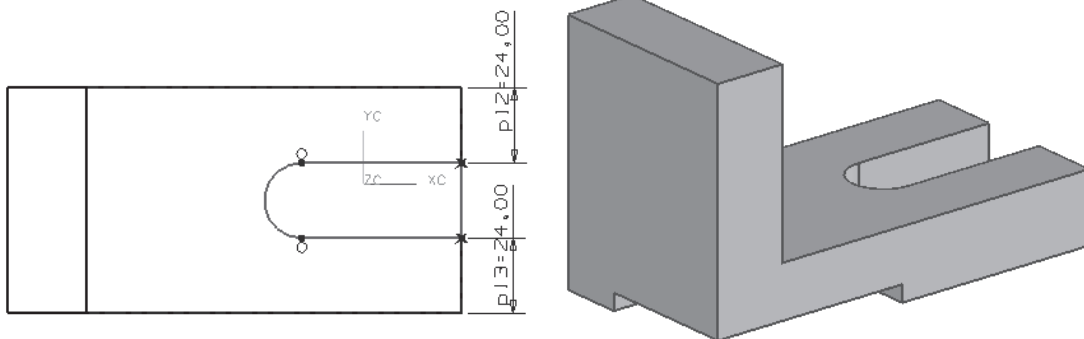

Figure 4-72 Sketch for the third feature
- Create the third feature with the **Subtract** operation using the sketch drawn on the upper horizontal face of the base feature, refer to Figures 4-72 and 4-73.
2. Draw the sketch of the feature and add the required constraints and dimensions, as shown in Figure 4-72.